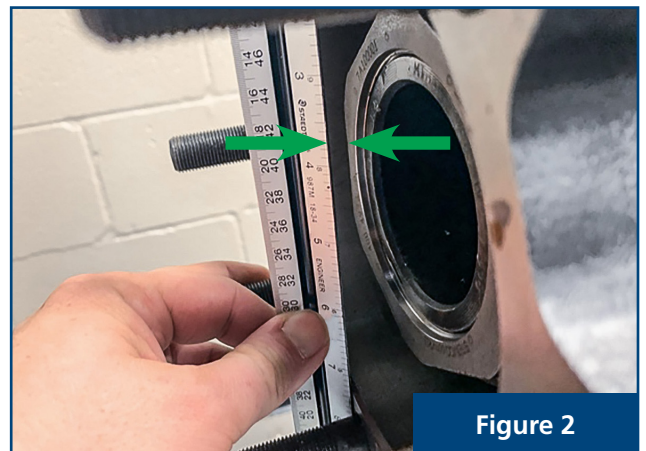

Figure 2
2. If the straight edge does NOT come in contact with the Zip-Torq®, then the Zip-Torq® can be used (See Figure 2)